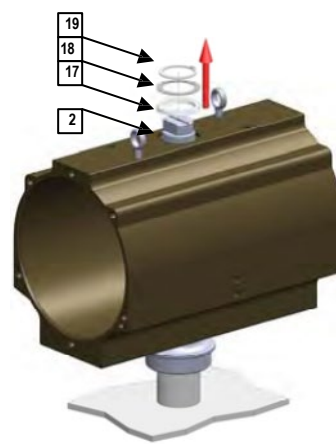

Fig. 11
11. Remove the snap ring (19) from the pinion (2), the washer (18), the spacer (17) (see Fig. 11).